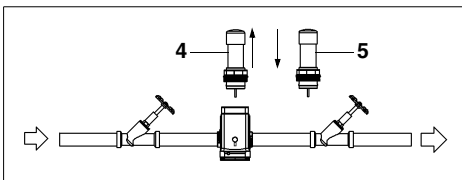

Fig. 9: Cartridge exchange III
4. Lift the empty phosphate cartridge (4) out of the device (see fig. 9).
5. Insert the new phosphate cartridge (5) into the device.